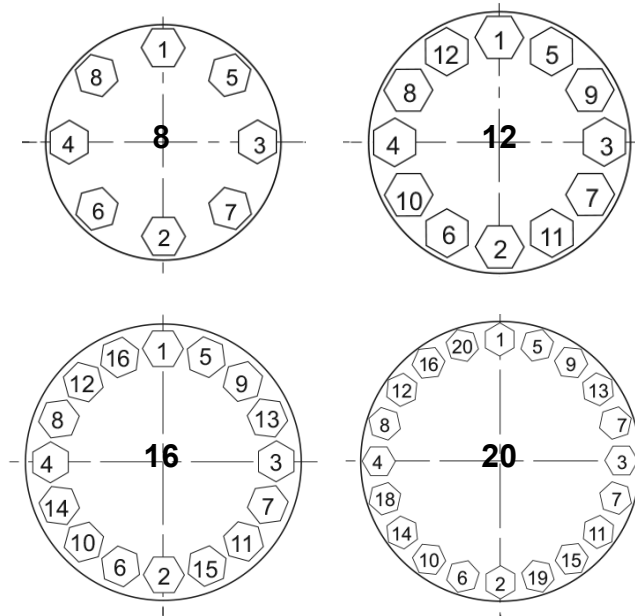

Figure 11 - Bolt torque sequence
6. Further tighten the stud nuts in the sequence indicated in **(Figure 11)** based on the number of bolts in the bolt pattern and torque to value indicated on the valve assembly drawing in at least 6 equal torque steps (10%, 20%, 40%, 60%, 80%, and 100% of the prescribed value) unless otherwise specified.
Figure 11 details the tightening sequence for the bonnet/body bolts torques for an 84003 Series SteamForm. Evenly apply torque to the body nuts to the amount specified in the assembly drawing for this specific valve.
11. At this point, the nuts should only be finger tight. For service use, tighten the nuts as described in Figure 11